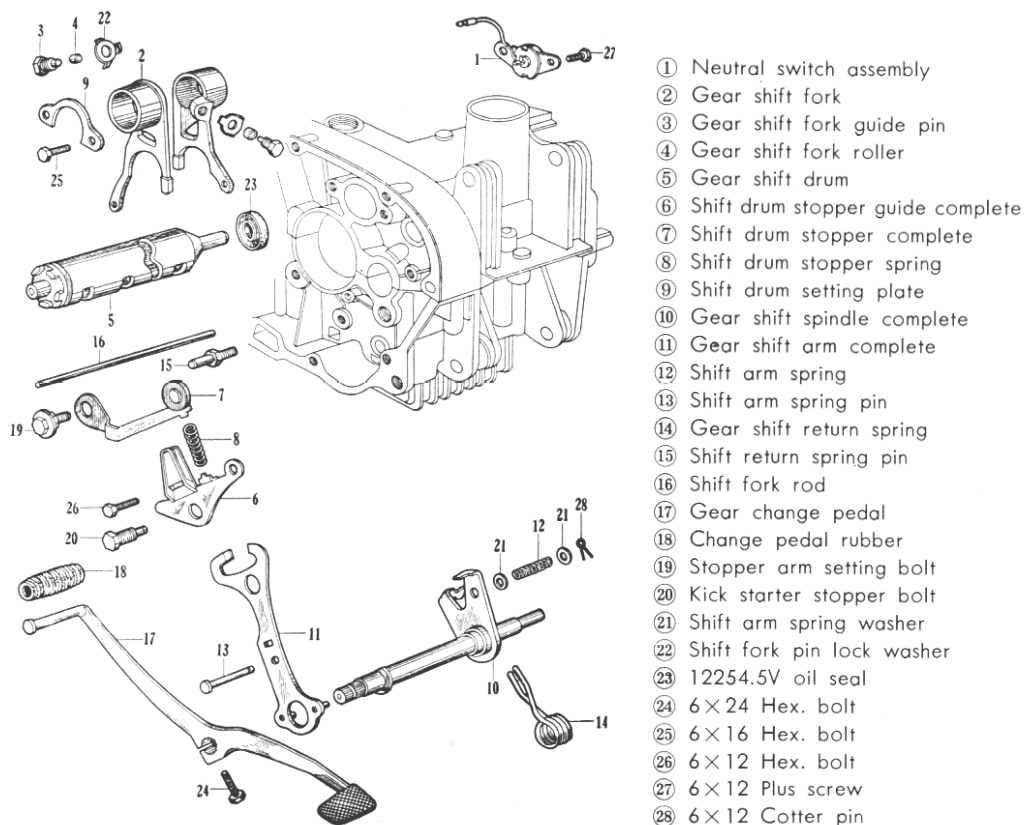

Fig. 3-11.
Besides, there is equipped a switch to indicate neutral state, which put light on a indicator lamp when the rotary switch combined on the shift drum is in neutral state. The shift mechanism to actuate the above mentioned counter shaft 2 gear and the mainshaft 3 gear is explained as follows. In Fig. 3-11 when the gear change pedal (17) is pushed down, the gear shift spindle (10) is turned, and consequently the gear shift arm (11) will turn the drum (5) being pushed by the protrusion on the left end of this gear shift drum.